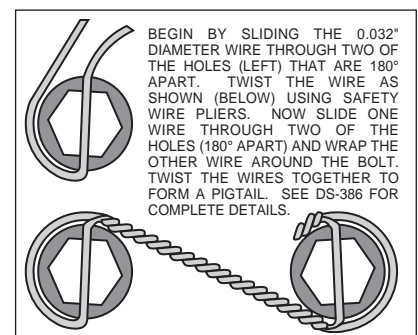

Figure 4. Safety Wire Diagram
- With the slot pointing upward and the mounting ears pointing towards the rear of the vehicle, install the caliper mounting bracket (1) to the housing flange using the stock Original Equipment Manufacturer (OEM) bolts and nuts. Stock OEM hex nuts that retain the bracket (1) should be on the wheel side of the bracket. Apply red *Loctite*® 271 to the stock OEM bolt threads and torque to OEM specifications. **NOTE:** Some brackets act as the bearing retainers, while others help locate the bearing in the axle housing flange. If the stock bearing plates are still on the axle, the caliper mounting brackets (1) should be located between the axle housing flange and the bearing retainer plate. Make sure the heads of the caliper mounting bracket insert nuts are **FACING OUTWARD TOWARDS THE WHEEL.**
- Bolt the hat (2) to the rotor (3) using washers (4) and bolts (5). Torque bolts (5) to 180 **in-lb.** Safety wire bolts (5) using standard 0.032 inch diameter stainless steel safety wire as shown in Figure 4. Please refer to Wilwood's data sheet DS-386 (available at www.wilwood.com/pdf/ds386.pdf) for complete safety wire installation instructions.
- Align the correct hole pattern in the hat (2) with the stud pattern on the axle flange. **NOTE:** Some OEM and after market axles come with stud sizes larger than 0.50" diameter. Verify stud size and have a qualified machine shop drill the hats to the correct size. Slide the hat/rotor assembly (2 and 3) over the wheel studs and against the axle flange face.